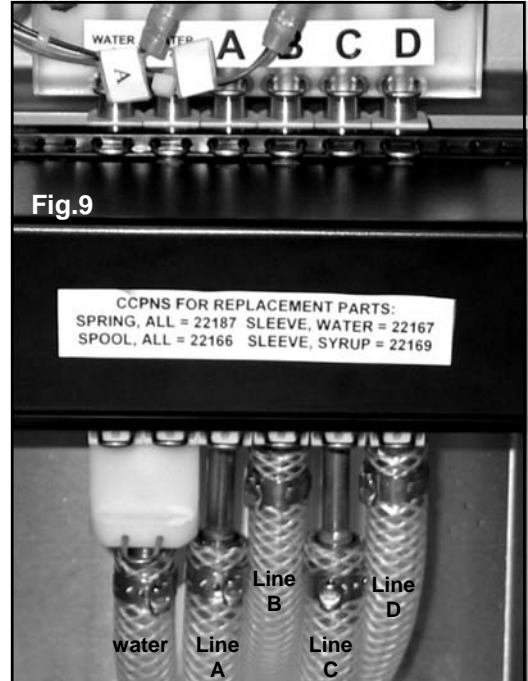

Fig.9
1. Install the 4 syrup "pigtails" with staggered fittings into the Manifold as shown in Fig.9, push the Kwik Klips in to secure the fittings, and route the pigtails through the Tower bottom as shown in Fig.10.
2. Install the 4 Syrup "pigtails" with staggered fittings into the Manifold as shown in Fig.9, push the Kwik Klips in to secure the fittings, and route the pigtails through the rear tubing access hole (Fig.11).